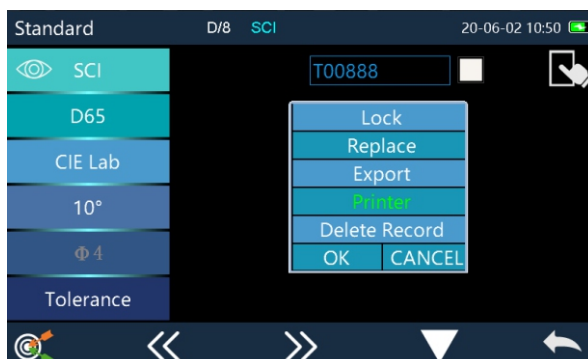

Figure 18
- 5.Click  to select "Print Data" in the pop-up menu and click "Confirm" to start printing the sample chromaticity data, as shown in Figure 18:
Switch records by clicking  or  Switch among chromaticity data, reflectance curve and color index by clicking  Click  to replace, lock, to current STD, and print data as shown in figure 18.